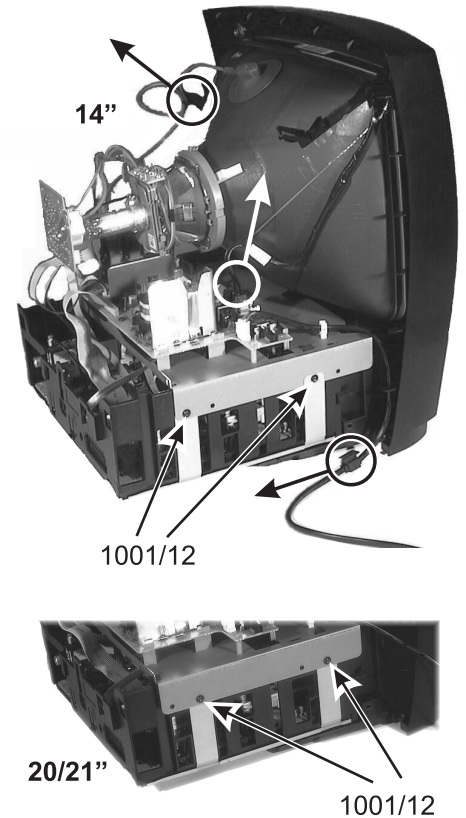

Figure 4-3
2. Remove the 4 screws 1001/12 (see figure 4-3).
3. Remove the mains cable from the cable guides (see figure 4-3).
5. Unplug the degaussing coil (see figure 4-3).
7. Remove the high voltage cable (EHT) from its mount (see figure 4-3).
- During the assembly of the set you have to be careful, that the LSB with its shielding have to fixed in different positions dependent on the screen size (14" or 20"/21") (see figure 4-3).